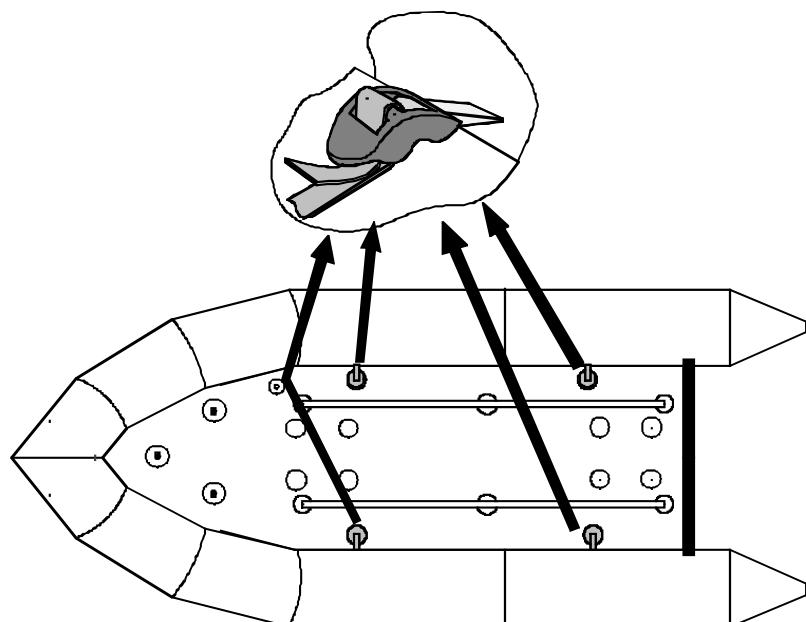

**fig. 4**
6. **Check** that all sections are correctly aligned [fig 4].
3. **Fit** correctly the stringers between the two buffers (9) of sections 3 and 5 [fig. 4].